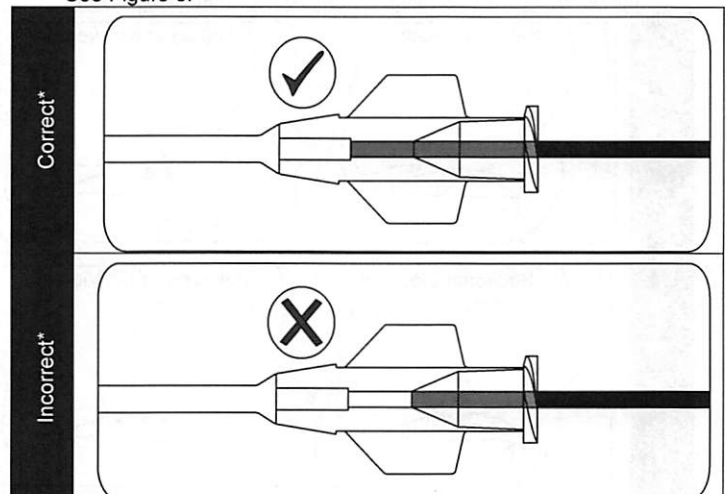

Figure 5
17. Advance the eCLIPs™ Sheath through the RHV of the eCLIPs™ Microcatheter hub until the eCLIPs™ Sheath is fully engaged. See Figure 5.